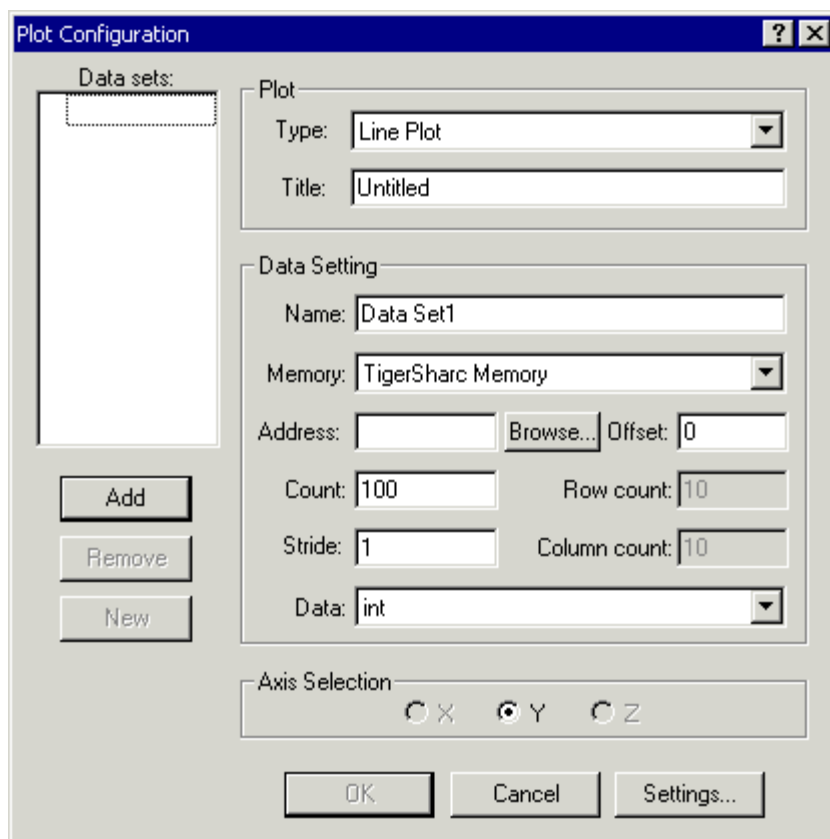

Figure 2-25. Plot Configuration Dialog Box
1. From the **View** menu, choose **Debug Windows** and **Plot**. Then choose **New** to open the **Plot Configuration** dialog box, shown in Figure 2-25 on page 2-38.